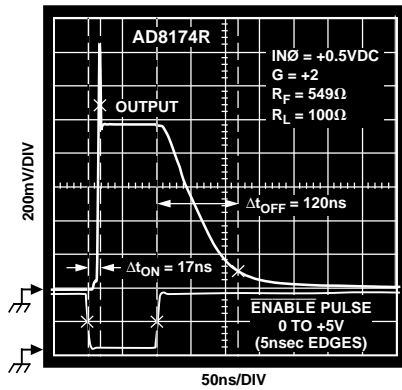

Figure 5. Enable and Disable Switching Characteristics
²AD8174 only. Shutdown (SD) pin is grounded. $\overline{\text{ENABLE}}$ pin is driven with 0 V to +5 V pulse (5 ns rise and fall times). State of A0 and A1 logic inputs determines which channel is activated (i.e., if A0 = Logic 0 and A1 = Logic 1, then IN2 input is selected). Set IN0 (or IN2) = +0.5 V dc, IN1 (or IN3) = -0.5 V dc, and measure transition time from 50% of $\overline{\text{ENABLE}}$ pulse (+2.5 V) to 90% of the total output voltage change. In Figure 5, Δt_{OFF} is the disable time, Δt_{ON} is the enable time.